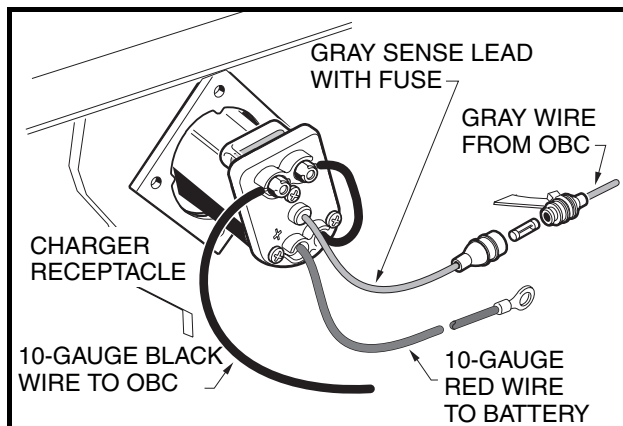

Figure 4-16 Charger Receptacle
6. Disconnect the charger receptacle (**Figure 4-16, Page 4-13**):
- 1.4.1. If necessary, install the charger receptacle and tighten the four screws to 16 in-lb (1.8 N·m) (**Figure 4-16, Page 4-13**). Tighten the nut that secures the 10-gauge black wire to the charger receptacle to 23 in-lb (2.6 N·m).